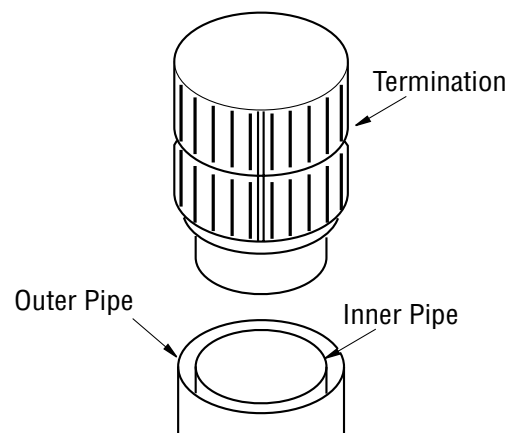
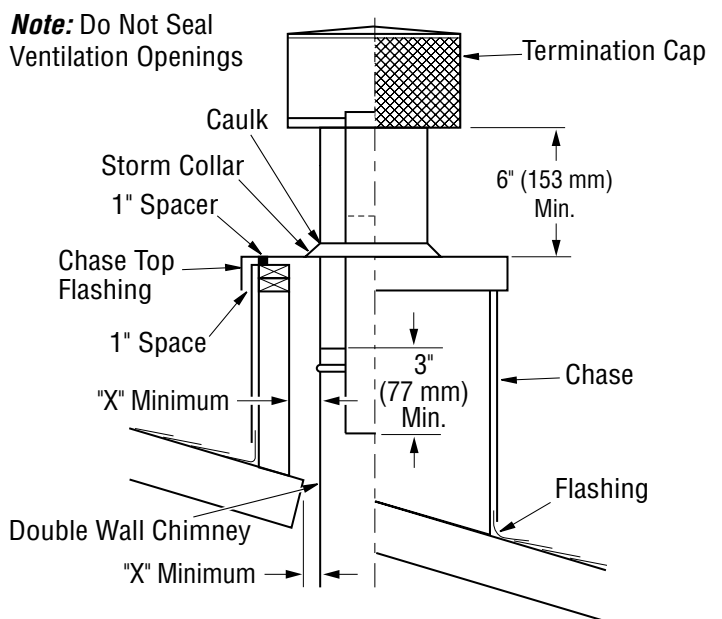

Figure 25 - Installing Termination Cap
Figure 26 - Chase Installation
5. Place termination cap over opening. Slip stainless steel inner pipe of termination into inner stainless steel chimney section (see Figure 25). Place galvanized steel over chimney outlet (see Figure 26).
6. Attach storm collar where chimney pierces opening in flashing. Caulk where storm collar touches outer chimney pipe (see Figure 26).